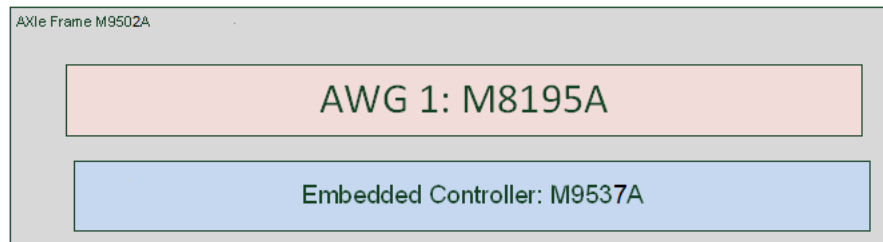

Figure 3 Hardware setup for Single-lane with module M8195A
- 1 Insert an M8195A and an Embedded Controller in the 2 slot frame AXIe chassis as shown in Figure 3.